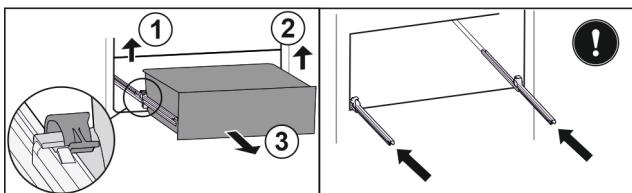

Fig. 91
- ▶ Lift left clamp and simultaneously pull drawer forwards on the left. Fig. 91 (1)
- ▶ Lift right clamp and simultaneously pull drawer forwards on the right. Fig. 91 (2)
- ▶ Remove drawer to the front. Fig. 91 (3)